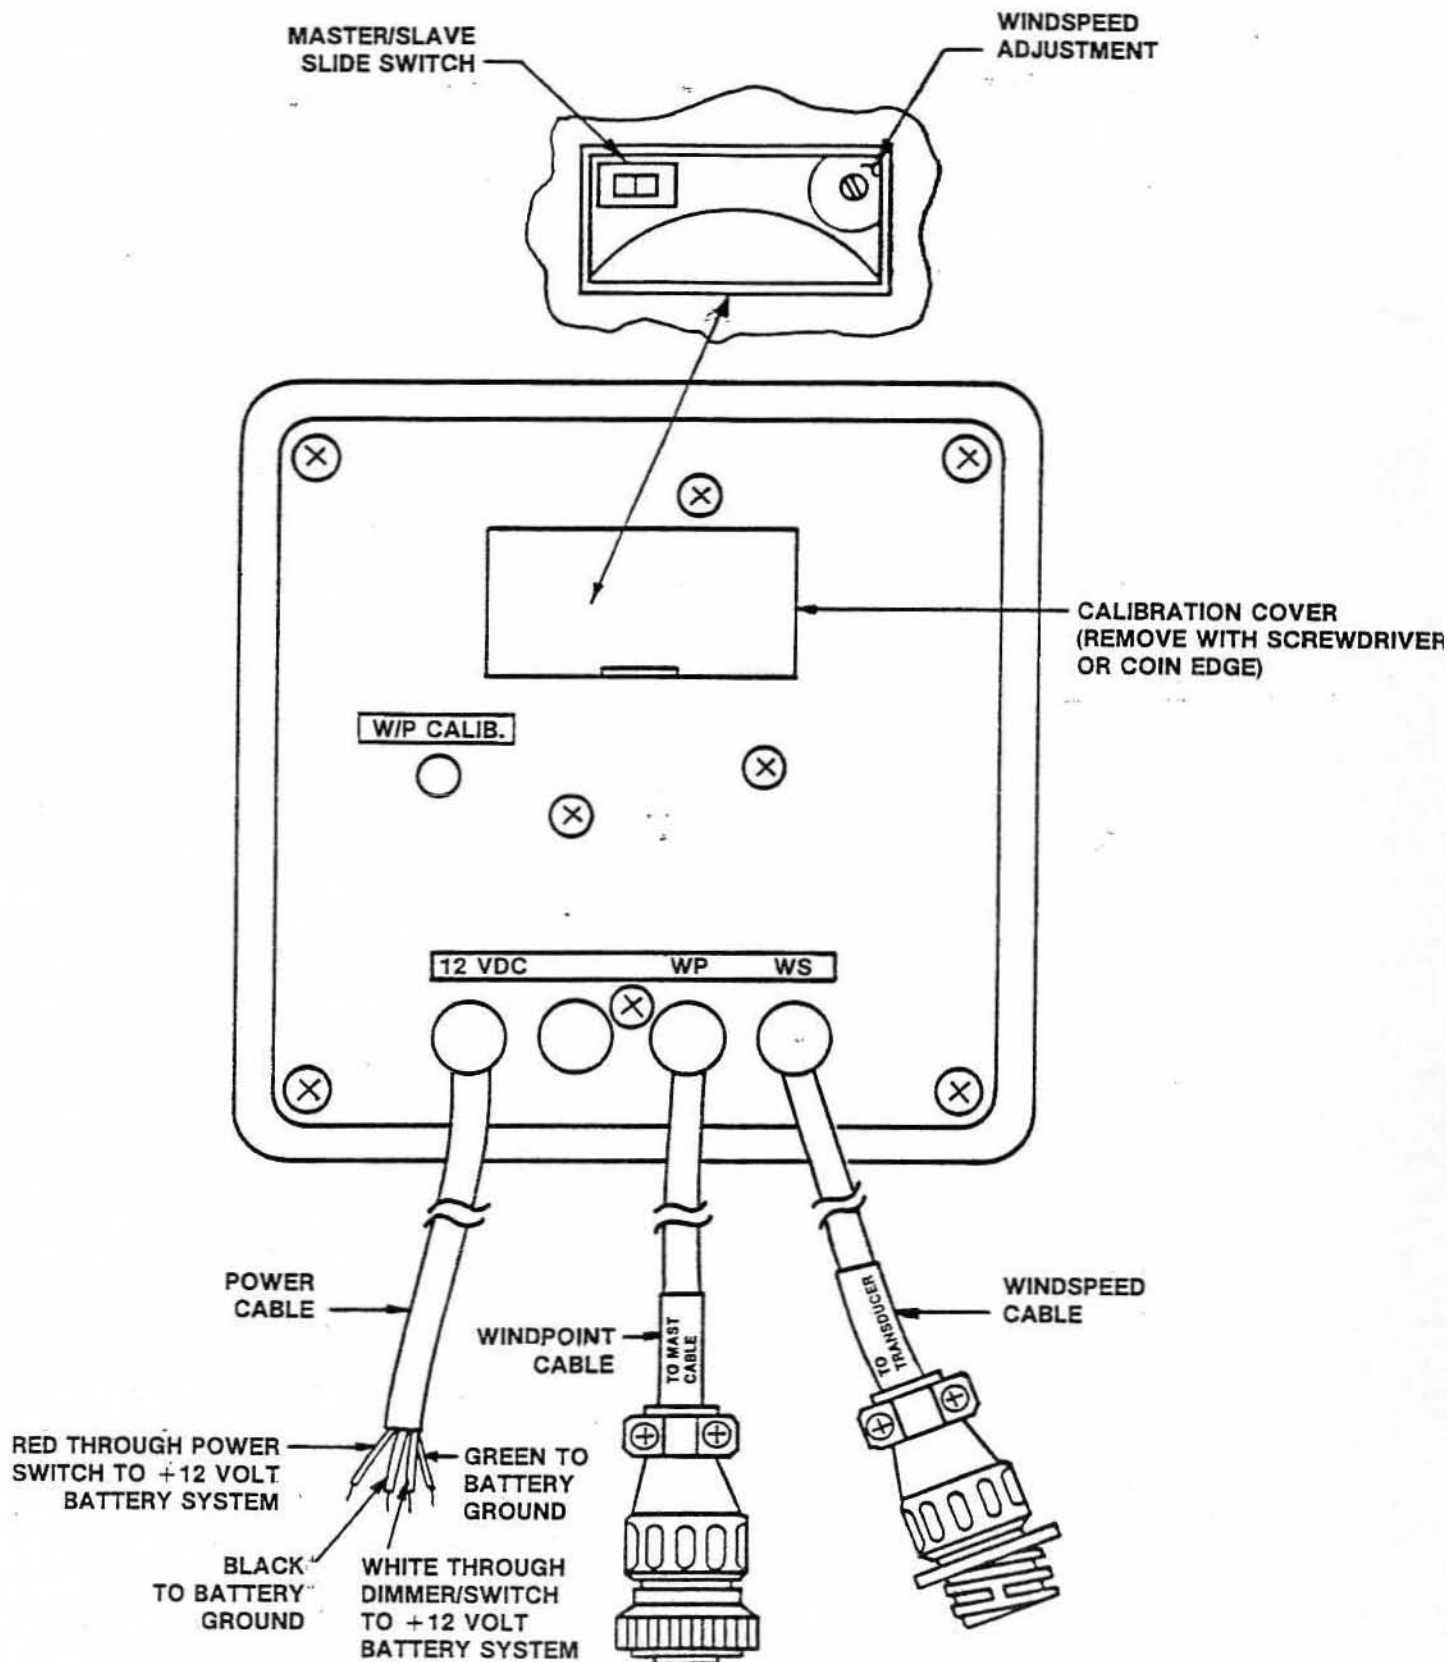

Figure 5. Rear panel of indicator.
Two of the cables from the rear of the indicator have connectors, one for windpoint (WP) and the other for windspeed (WS) (see Figure 5). Connect the windpoint connector (cable marked TO MAST CABLE) to its mating connector from the junction box. Connect the windspeed connector (cable marked TO TRANSDUCER) to its mating connector from the junction box.
Connect the red and black wires in the 12 VDC cable coming from the rear of the indicator (see Figure 5) to the boat's battery system through an external power switch, red to +12 volts dc and black to ground (THERE IS NOT POWER SWITCH ON THE INDICATOR). A 1-amp in-line fuse can be utilized in the indicator's external power circuit if desired.
Reference Figure 5 throughout this section.